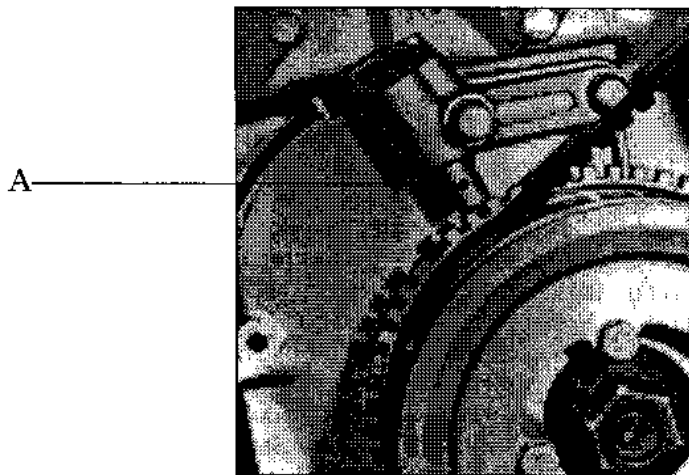
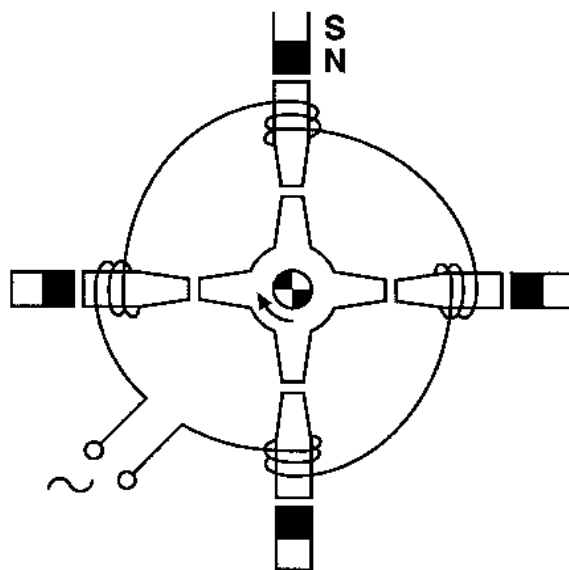

Figure 2
Figure 3
4. Figure 2 and Figure 3 show electronic inductive pulse generator type components.
- (a) (i) Sketch, on Figure 2 on **Worksheet Q4 (a)**, the output signal from the electronic generator shown on Figure 2 below. 1
- (ii) Sketch, on Figure 3 on **Worksheet Q4 (a)**, the output signal from the electronic generator shown on Figure 3 below. 1
- (iii) Sketch, on Figure 3 on **Worksheet Q4 (a)** the change required to the signal so that it will be recognised by the Central Processing Unit (CPU). 2
- (b) Describe the effect on the signal of an increased air gap between component "A" and the reluctor ring shown in Figure 2. 2
- (c) For the component shown in Figure 3, describe how the signal is generated. 4
- (10)**